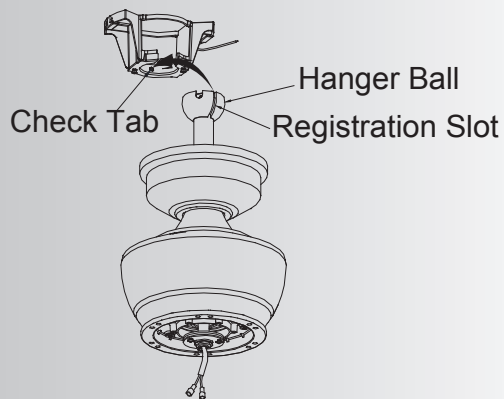

Fig. 9
Step 5. Now lift the motor body into position and place the hanger ball into the hanger bracket. Rotate until the "Check Tab" has dropped into the "Registration Slot" and seats firmly. (Fig. 9) The entire motor body should not rotate if this is done correctly.